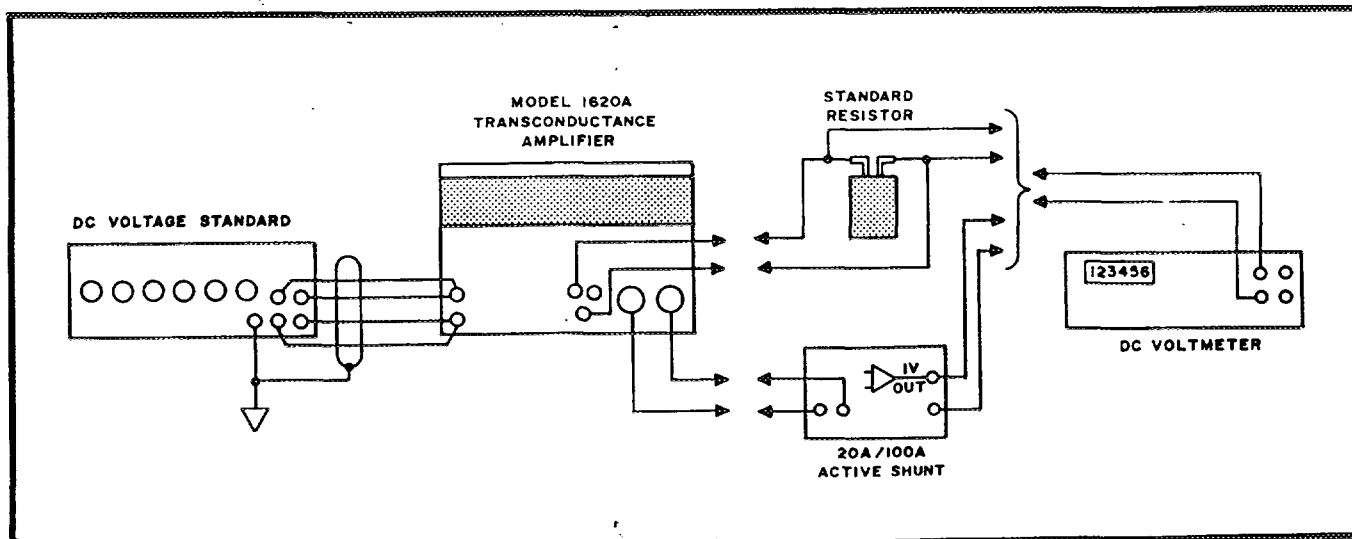

Figure 5-1. DC Current Check, Equipment Test Set-Up
5-10. Connect the test set-up for DC Current Calibration as shown in figure 5-1. Connect ac mains voltage to nominal voltage 100, 120, 220, 240 as specified in figure 3-3.
b. Connect the ac power line input to the voltmeter thru a line voltage control unit (Variac) and use a true rms voltmeter to measure the input line voltage to the instrument under test. See figure 5-1.
5-45. Connect the DC test set-up shown in figure 5-1 with DC Standard at 0 volts and lowest RANGE.
5-49. Connect the DC test set-up shown in figure 5-1.